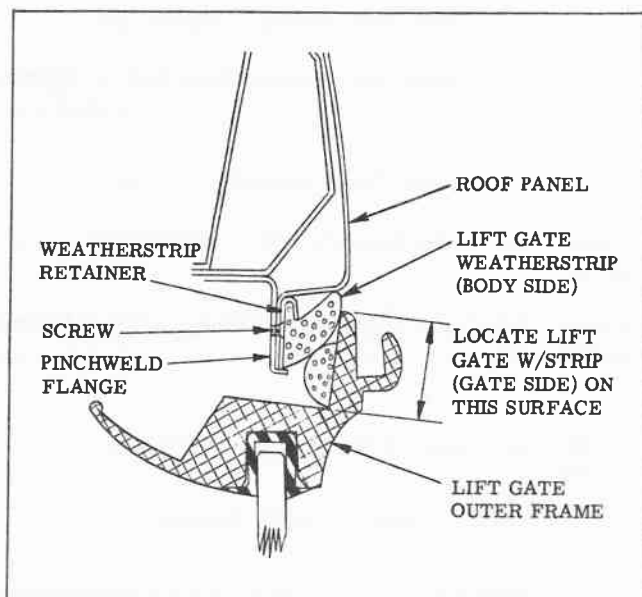

Fig. 5 View Through X-X Fig. 4
5. Correct any irregularities in the roof panel-to-back body opening outer rail pinchweld flange and then locate upper weatherstrip retainer along pinchweld flange. See Fig. 5.
6. Mark thirteen (13) hole locations on weatherstrip retainer - two (2) holes 1/2 inch from ends of retainer and eleven (11) holes spaced evenly for the remaining length.
7. Drill a 1/8 inch diameter hole through retainer and pinchweld flange at each hole location. See Fig. 5, for location of retainer. Remove retainer and paint retainer with primer.
10. Cement new lift gate weatherstrip (body side) in position and crimp upper flange of retainer over weatherstrip as shown in Fig. 5.
14. Install new lift gate upper weatherstrip (gate side) to obtain the required weatherstrip contact as shown in Fig. 5.
16. Install and align lift gate to obtain proper spacing and weatherstrip contact at all points. If required contact between lift gate weatherstrip (body side) and lift gate weatherstrip (gate side) is not obtained with lift gate properly aligned, relocate the lift gate weatherstrip (gate side) to obtain required weatherstrip contact. See Fig. 5.